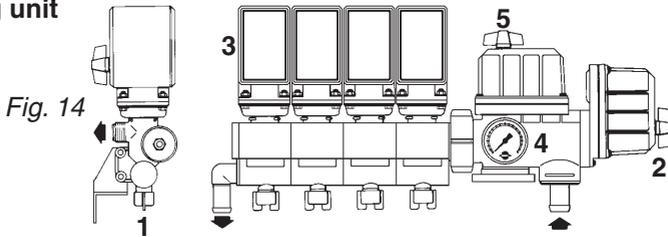

Fig. 14
6. Hold pressure regulating switch **(C)** (Fig. 15) to **(-)** until handle **(2)** (Fig. 14) stops rotating, this will be the "minimum pressure" setting.
7. Hold pressure regulating switch **(C)** (Fig. 15) to **(+)** until desired pressure is shown on the pressure gauge **(4)** (Fig. 14).
2. Turn the adjusting screw **(1)** (Fig. 14 or 16) until the control unit pressure gauge **(4)** (Fig. 14 or 16) again shows the same pressure as set in step 7 (Section 4.8 or 4.9). (Turn the screw clockwise for higher pressure, counterclockwise for lower pressure).